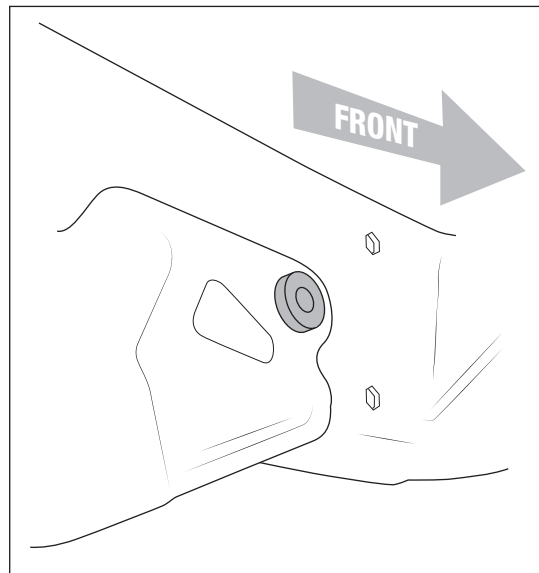

Figure 10 — Left: Inside Right: Outside
- d. Install the supplied spacer from outer side of the frame rail as shown (fig. 10). Make sure inner portion of the spacer passes through hole on the inside of frame rail as well.